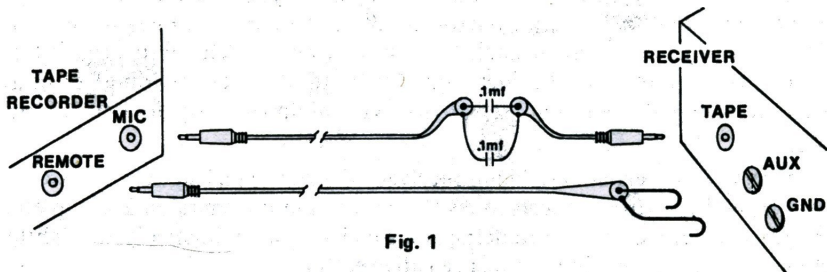

Fig. 1
2. Connect the control wires from the cassette recorder "Remote" jack to the AUX. and GND. terminals as shown in Fig. 1. If the recorder, set to "play", starts with the receiver OFF, the wires should be reversed. NOTE: Recorder should not be grounded to radio or other device in any manner.
4. Connect the Tape output of the BC-250 to the "mic" input of the recorder as shown in Fig. 1. To isolate the recorder ground from the scanner, coupling capacitors should be used in the ground and center conductors as shown. **Alternate:** Sound may be recorded by placing the microphone near the receiver speaker if preferred.